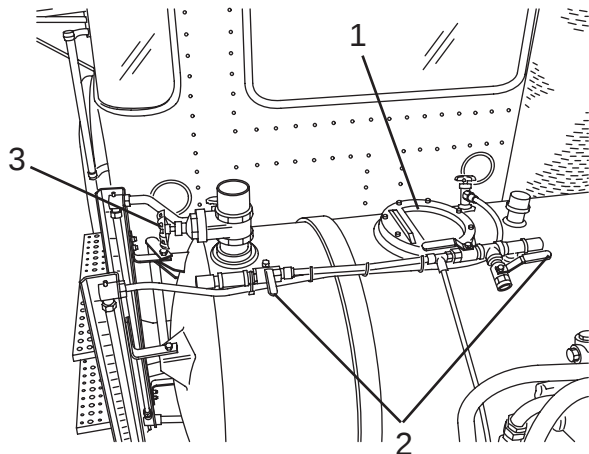

Figure 114
6. Check flopper valve (Figure 114, Item 1) for free movement, and make sure it seats properly.
7. Check valves (Figure 114, Items 2 and 3) to make sure they move freely.